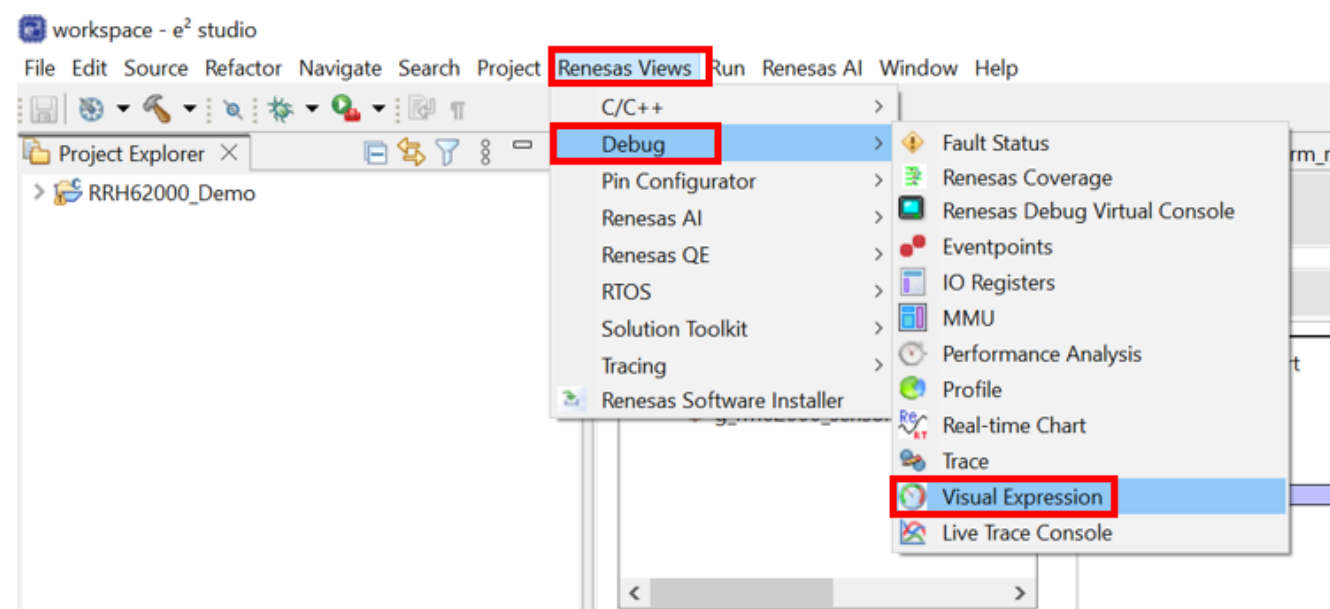

Figure 19. Open Visual Expression
5. From the Menu bar, select **Renesas Views > Debug > Visual Expression** (see Figure 19).